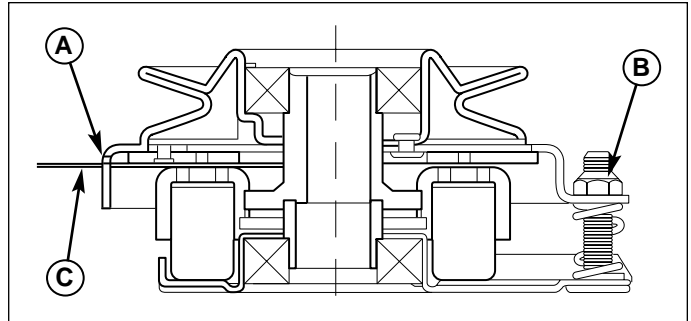

Figure 34. Adjust PTO Clutch
3. Insert a .016"-.018" (0,40-0,45mm) feeler gauge (C) through each window, positioning the gauge between the rotor face and the armature face as shown in Figure 34.